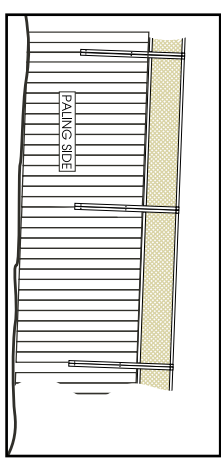

Fig 1c
- If the top of the fence has a constant slope, instead of stepping Matrix Fence Extensions you can install them on an angle as shown in Fig 1c.